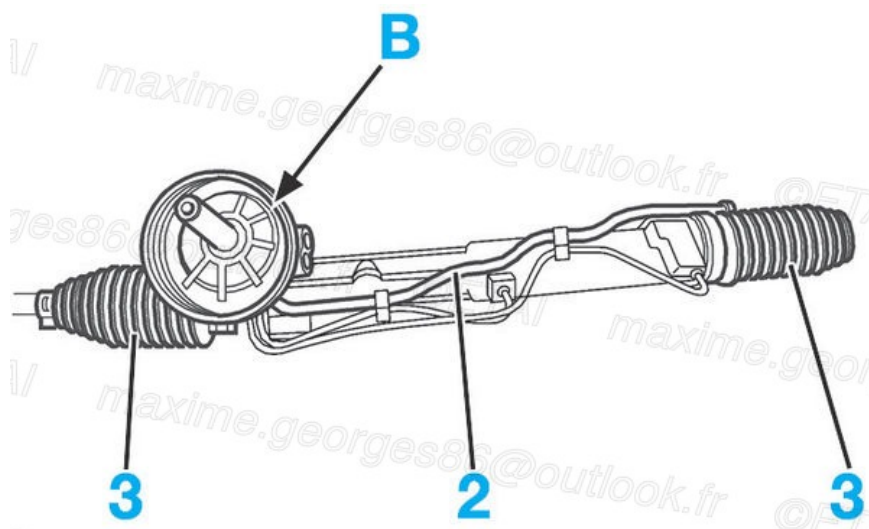

Fig.16
- graisser la portée (B) (graisse LUBRICOMET SP70) (Fig.16)